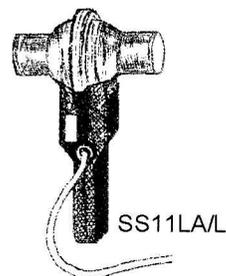

Fig. 12.10
1. Hold the Airflow transducer upright and still (Fig. 12.10).